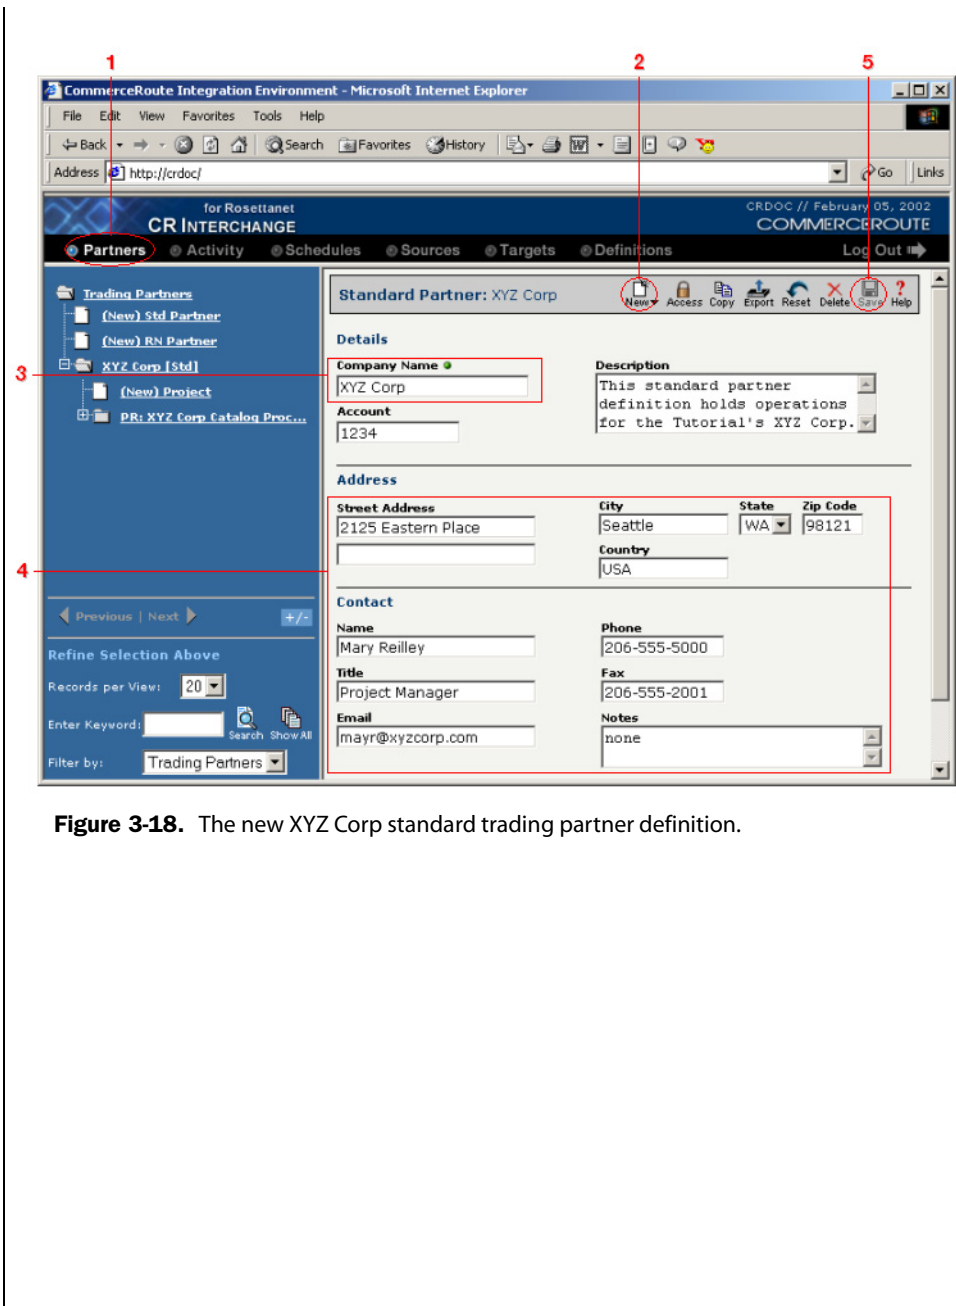

Figure 3-18. The new XYZ Corp standard trading partner definition.
- ❺ You’ve finished creating and modifying your partner, so click the **Save** button in the toolbar to save your changes. Your new partner should appear in the partner list at the left side of the screen. Compare your partner with Figure 3-18 below.